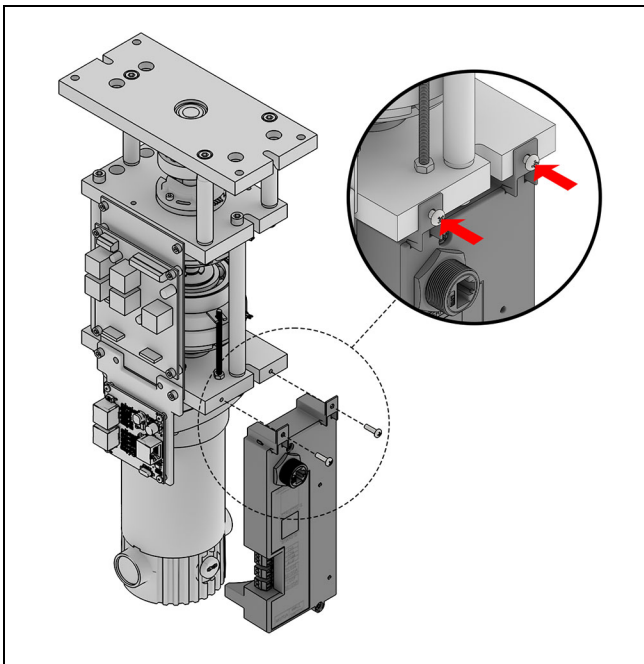

Figure 25
2. Line the module up so that the holes align with the threaded holes under the single post of the motor. See Figure 25.